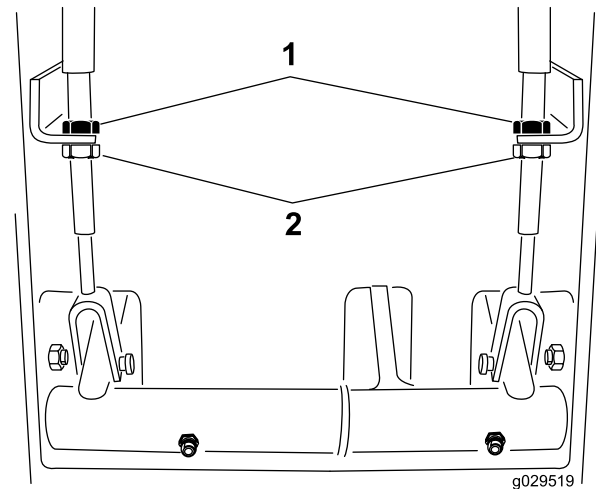

Figure 74
2. To reduce the free travel of the brake pedals, loosening the front jam nuts at the threaded end of the brake cable (Figure 74).